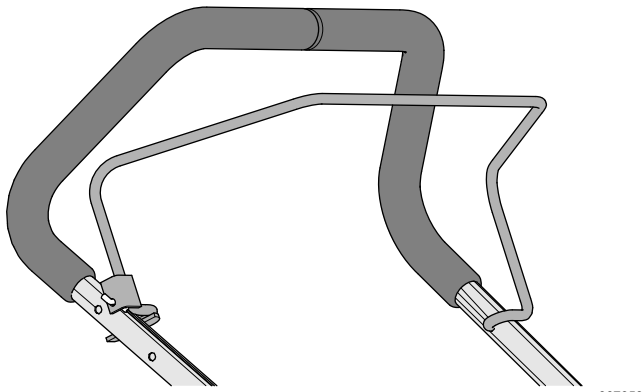

Figure 12
4. Insert the end of the operator-presence bail into the handlebar, squeeze the other leg of bail slightly, and insert the bail into the handlebar (Figure 12).